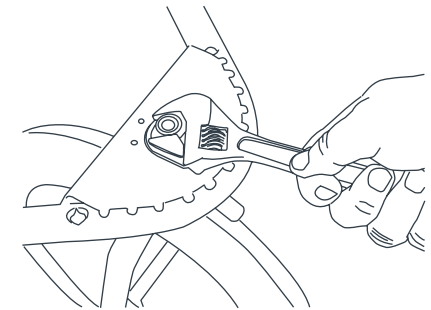

Fig. 21
- 21) • If you experience front wheel wobble that is beyond what is normal for use while walking or jogging you may have to adjust the front wheel housing nut. This nut is located under the footrest located at the front of the jogger. You can use a standard crescent wrench to tighten the nut (Fig. 21).